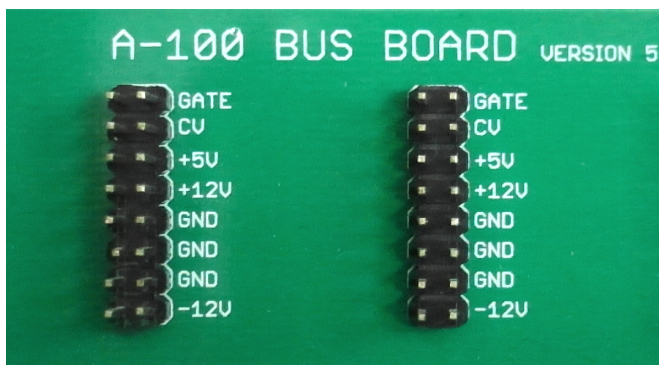

Figure 3: Eurorack bus connector
Please connect the supplied 16-way ribbon cable to the module *Eurorack bus connector* (28) and your modular system bus board (Figure 3).
Eurorack connectors are usually orientated so the *Gate signal* is on top and the *-12v* supply at the bottom. Refer to Figure 3. The NW1 module follows the same convention.